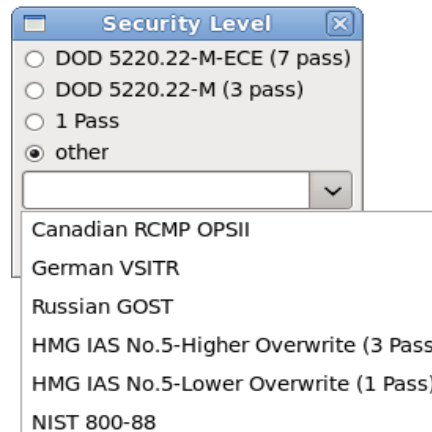

Figure 3.5 – Security Level Pop-up Window
3.6 After pressing the “Erase Hard Drive” button, a pop-up window will appear that allows you to choose the level of overwrite you would like to execute on the selected drive. Figure 3.5 shows this pop-up window.